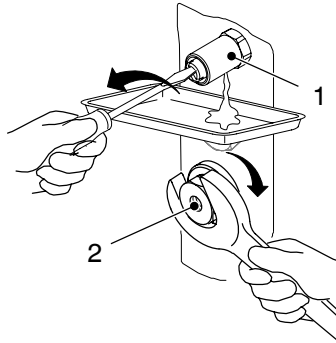

Fig. 5-16
2. Insert the filter cartridge (2, Fig. 5-16) in the filter bore and tighten somewhat.
3. Place a container under the respective air relief valve (1, Fig. 5-16).